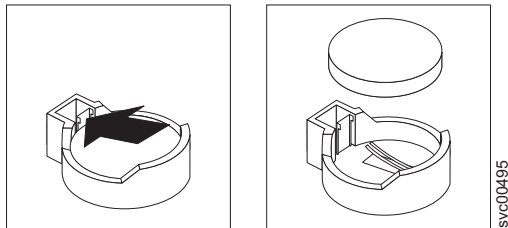

Figure 136. Removing the SAN Volume Controller 2145-8A4 CMOS battery
7. Remove the CMOS battery, as shown in Figure 136: